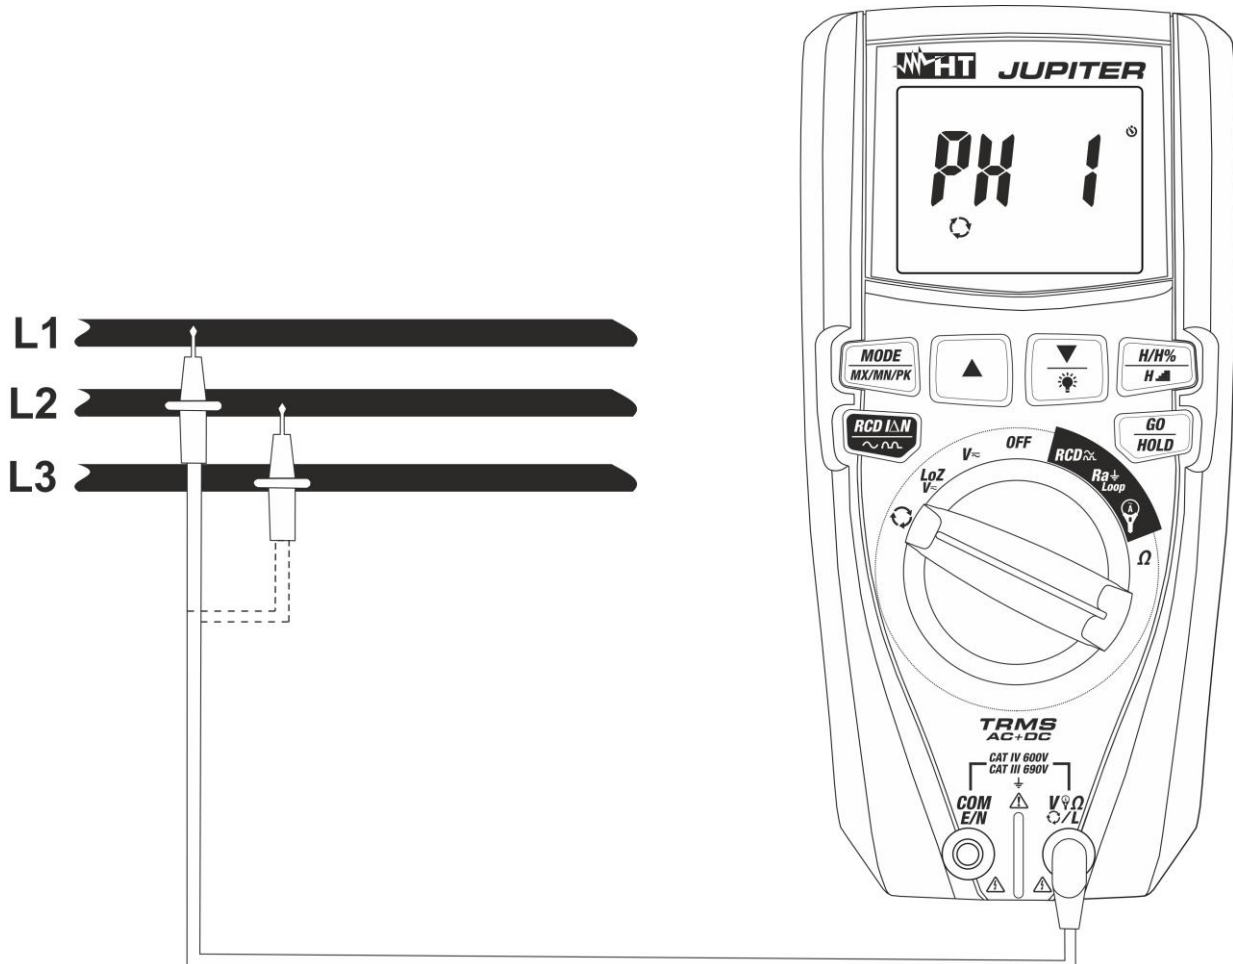
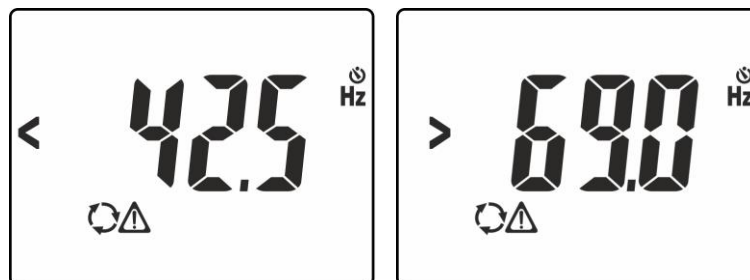
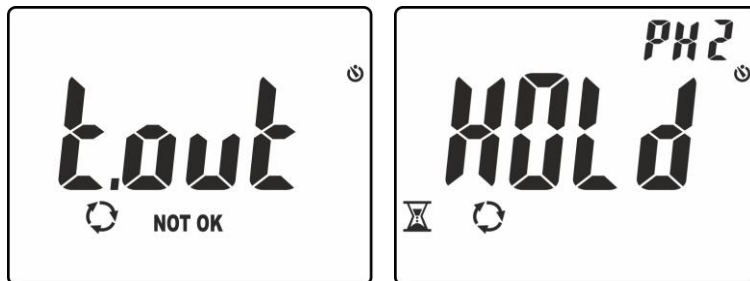

Fig. 12: Use of the instrument for phase sequence and phase concordance test
Fig. 13: Signal of voltage with wrong frequency
Fig. 15: Detecting phase L1 and waiting for phase L2
3. Position the red lead onto phase **L1** of the three-phase system to be tested (see Fig. 12). The following messages may appear on the display (see Fig. 13) to identify the presence of a voltage signal with frequency out of range **42.5Hz ÷ 69Hz**. In these conditions, the instrument does not perform the test.
6. Position the red lead onto phase **L2** of the three-phase system to be tested (see Fig. 12). In case passage between phase L1 and phase L2 takes more than **10s**, the instrument shows message “**t.out**” on the display (see Fig. 15 – left side). In conditions of correct voltage and frequency, the instrument shows message “**HOLD**”, symbols and “PH2” and the buzzer sounds continuously, waiting for a stable voltage value on phase L2 to be detected (see Fig. 15 – right side)